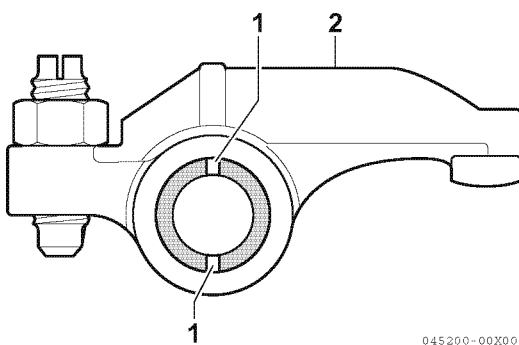

Figure 6-33
Ensure the lubrication holes (**Figure 6-33, (1)**) in the rocker arm shaft are oriented correctly with respect to the rocker arms (**Figure 6-33, (2)**).